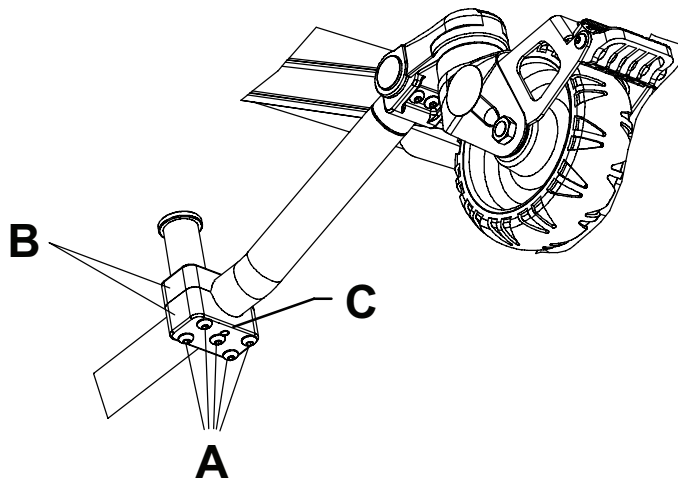

Figure 3 – Cot retaining post adjustment
1. Using a T30 Torx driver, remove the five bolts (A) that secure the two retaining post brackets (B) to the base frame (Figure 3).
2. Reinstall the bolts removed in step 1. Install the center bolt in the alternate hole in the center of the bottom bracket (C) (Figure 3).